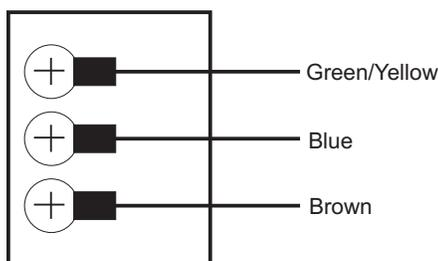

Figure 8-7. Power Supply Voltage Wire Connections
- Step 1. Attach the Line Voltage wires to the terminals as shown in Figure 8-7.